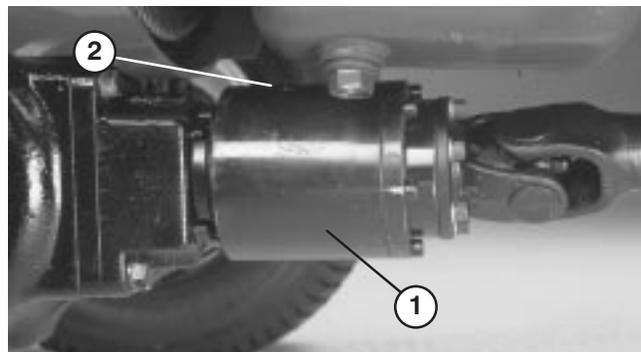

Figure 25
2. Rotate clutch (Fig. 25) so check plug (shown in 12 O'clock position) is positioned at 4 O'clock.